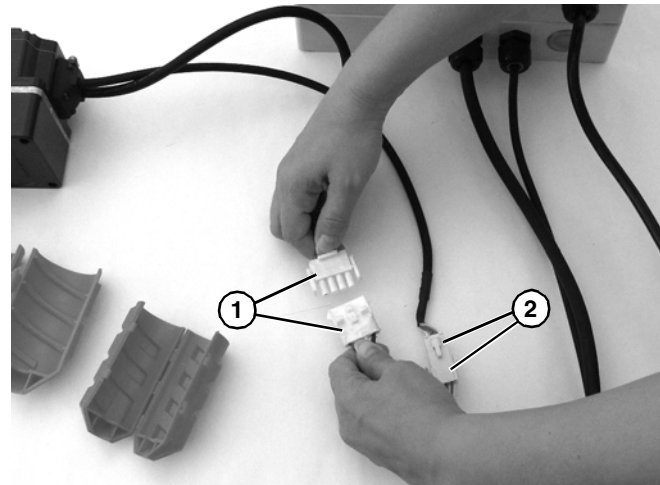

Figure 17
6. Connect motor plugs (**Figure 17, item 1**) and (**Figure 17, item 2**).